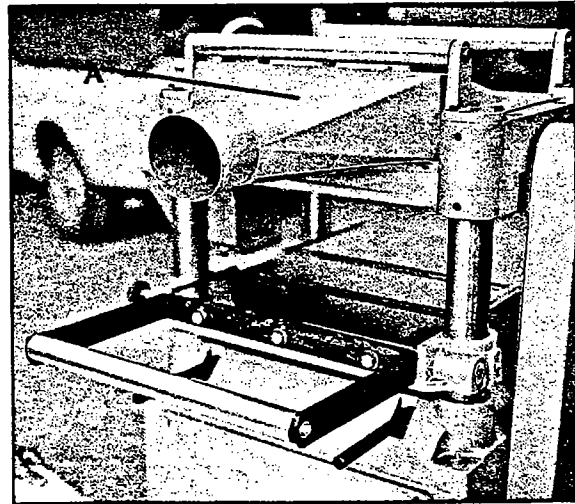

Fig. 38
Shaving Hood (A) Fig. 38, is available as an accessory. Assembled to the rear of the planer using two machine screws and connected to a dust collection system, it provides an efficient means of maintaining a clean and safe work area.